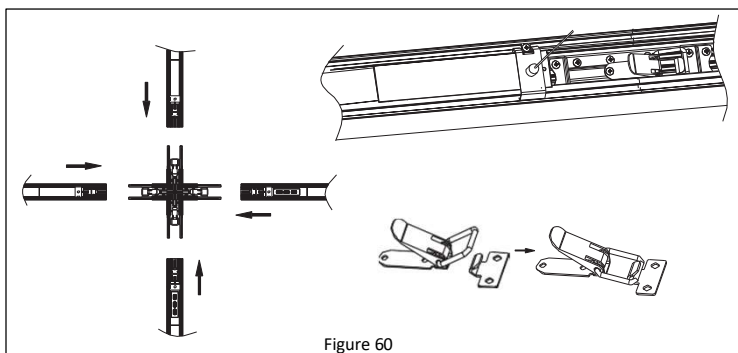

Figure 60
- Insert the "X" connector into the fixtures and pull the lock buckle to secure the fixtures. **See Figure 60.**